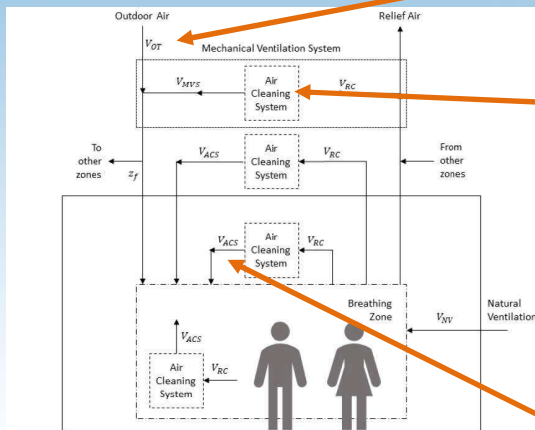

Figure 6-1 Sources of outdoor and clean air (for V_{RC} , see Section 7).
- The **clean airflow rate to each zone**, as shown in Figure 6-1, shall be greater than or equal to the **minimum equivalent clean airflow** required, as expressed by Equation 6-1